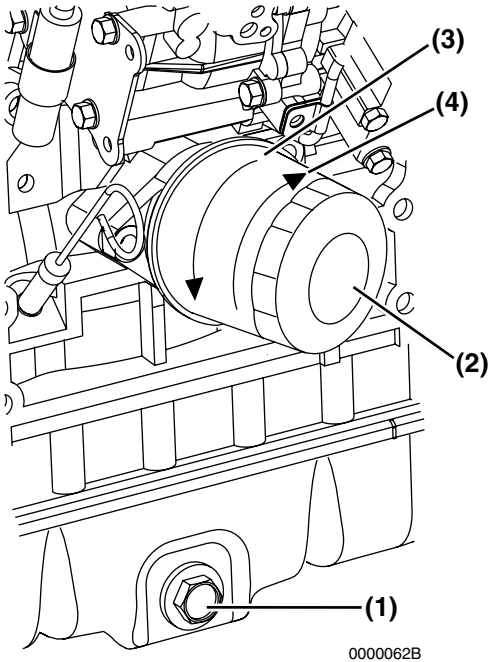

Figure 5-2
- 6. Remove the oil drain plug (Figure 5-2, (1)) from the engine oil pan. Allow oil to drain.
- 7. After all oil has been drained from the engine, reinstall the oil drain plug (Figure 5-2, (1)) and tighten to 14 - 17 ft·lb (19.6 - 23.5 N·m; 2.0 - 2.4 kgf·m).
- 1. Turn the engine oil filter (Figure 5-2, (2)) counterclockwise (Figure 5-2, (3)) using a filter wrench.
- 3. Lightly coat the gasket on the new oil filter with engine oil. Install the new engine oil filter manually by turning it clockwise (Figure 5-2, (4)) until it contacts the mounting surface. Tighten an additional 3/4 of a turn using the filter wrench.